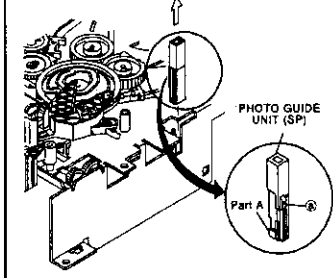

Fig. 2-19-1
- 1 Unfasten the catch (a) of the PHOTO GUIDE UNIT (SP) shown in Fig. 2-19-1 with tweezers, etc. and remove the PHOTO GUIDE UNIT (SP) in the direction shown by the arrow.
- 2 Push the PHOTO GUIDE UNIT (SP) into the DECK so that the catch (a) is hooked, with the part A shown in Fig. 2-19-1 toward the inside of DECK.